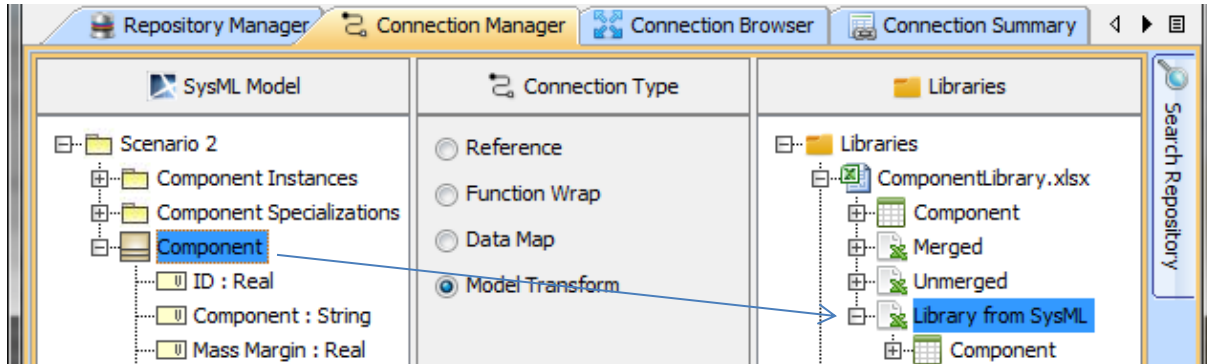

Figure 11 Creating component table in Excel from Component block in SysML
Making sure the Excel workbook is closed before attempting to make changes through Syndeia, the Component block can be dragged to an empty sheet of the workbook (Library from SysML), creating a new named reference (specifically a table) in Excel as shown in Figure 11. Other options include: (1)